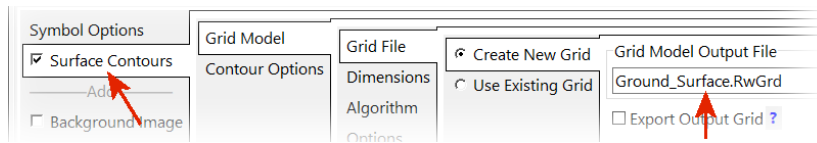

Figure 57
- Enable the Surface Contours (Figure 57) and set the name of the Grid Model Output File to “Ground_Surface.RwGrd”.